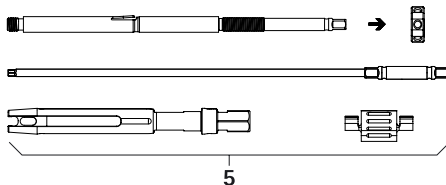

Fig. 3
- Dismount reduction lever percutaneous **5**, see Fig. 3.